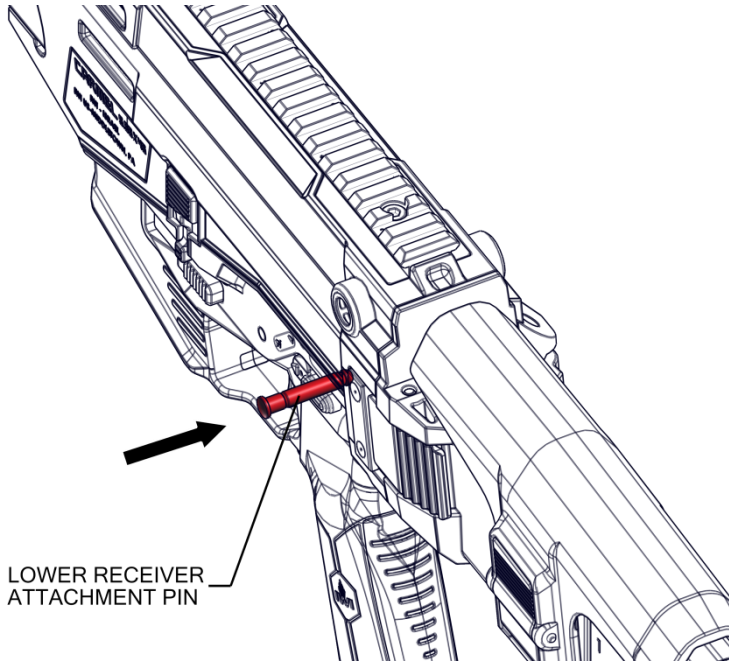

Figure 10-13 – Inserting Lower Receiver Locking Pin
4. Close the Attachment Pin and press the Lower Receiver Locking Pin inside until it is fully inserted (Figure 10-13).